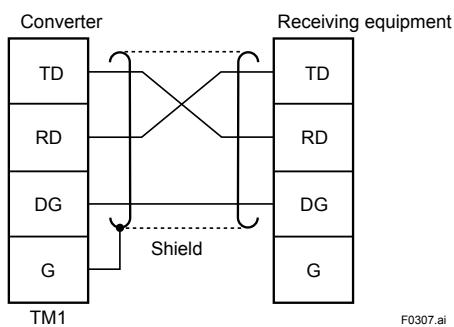

Figure 3.7 Digital Output Wiring Connection
- (1) Strip off about 40 mm of the insulation covering and shield from the cable end and solder a leadwire to the root of the exposed shield. Protect the soldered part with wound insulation tape.
- (2) Make the soldered leadwire length almost the same as other conductor lengths and attach crimp terminal lugs conforming to an M4 (4 mm) screw to the tips of each conductor and this leadwire.
- (3) Connect the cable to the converter terminals (TD, RD, DG, and G). Connect the conductors as shown in Figure 3.7 (Do not ground the shield on the receiving side).